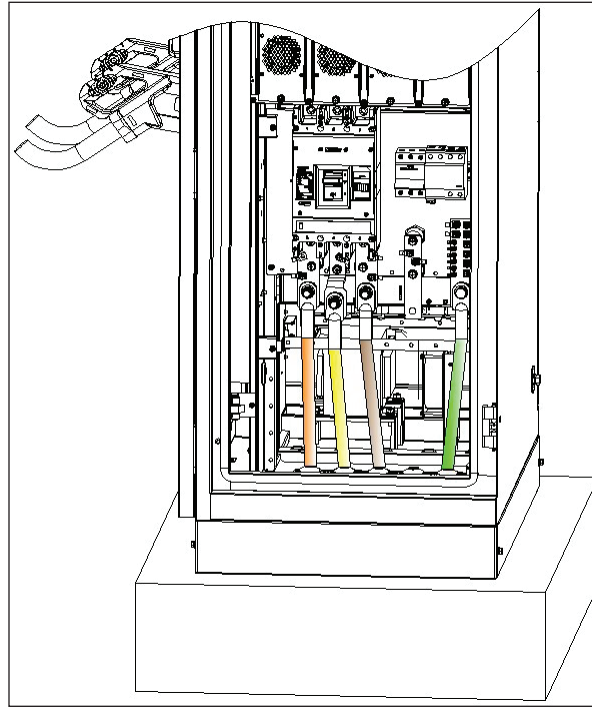

Figure 4.4.4
2. Fix the cable lug on the copper bar with the screw of M(25/64)/M(5/16) inch(M10/M8), the torque is 221-265.2 in·lbs(25-30N·m), and the force is calibrated, as shown in **Figure 4.4.4**.